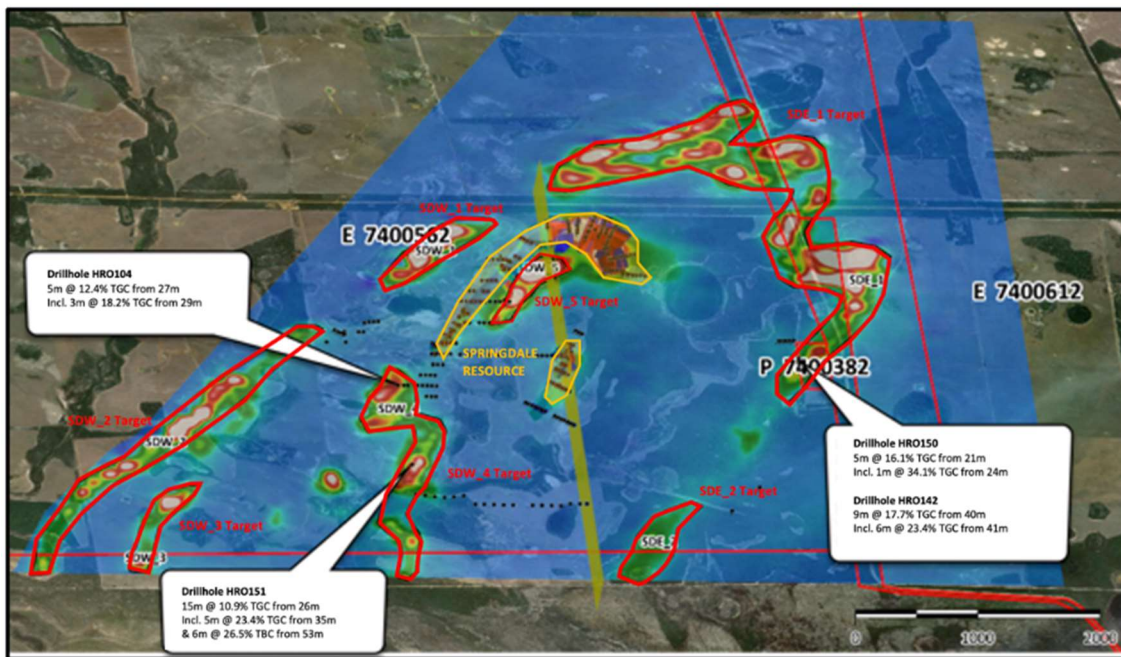

Figure 5: Airborne electromagnetic survey image showing conductive material in relation to resource areas and new targets.
- SDW_1 is the first of at least 7 high priority exploration targets within 2.5km of the main Springdale resource that will be tested with ongoing RC drilling programs (Figure 5).